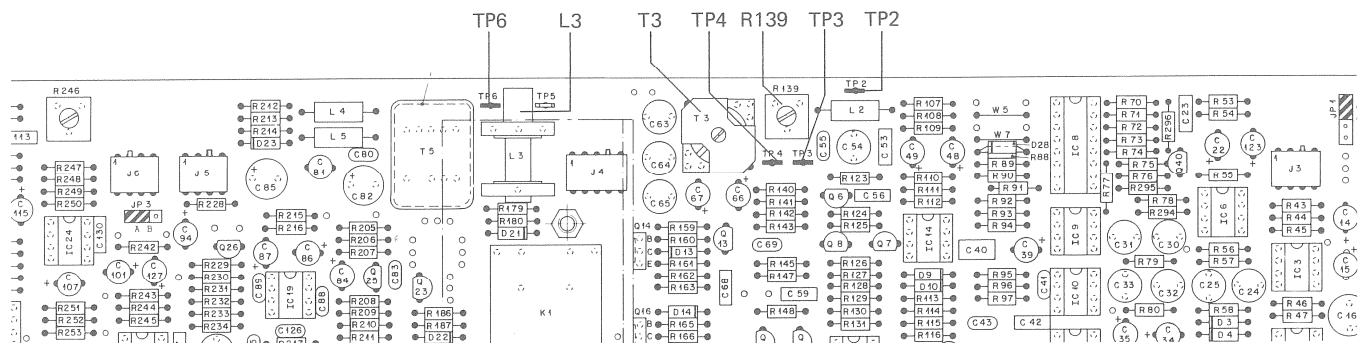

Fig.4.4.1
Turn R139 on the AUDIO ELECTRONICS PCB 1.727.420/421/422/423 or 1.727.460/461/462/463/467 (GR 41 or GR 42) to the minimum. (See Fig.4.4.1)
- Connect the vacuum-tube voltmeter to TP6 (0V to TP2) of the AUDIO ELECTRONICS PCB 1.727.420/421 1.727.422/423 or 1.727/460/461/462/463/467 (GR 41 or GR 42 respectively). (See Fig.4.4.1)